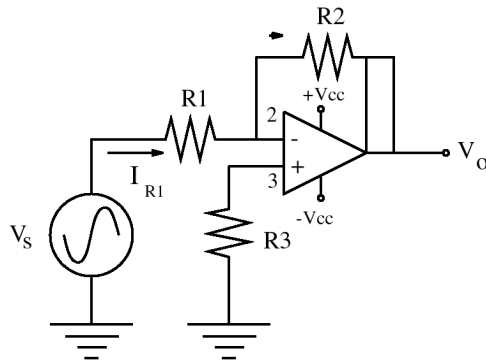
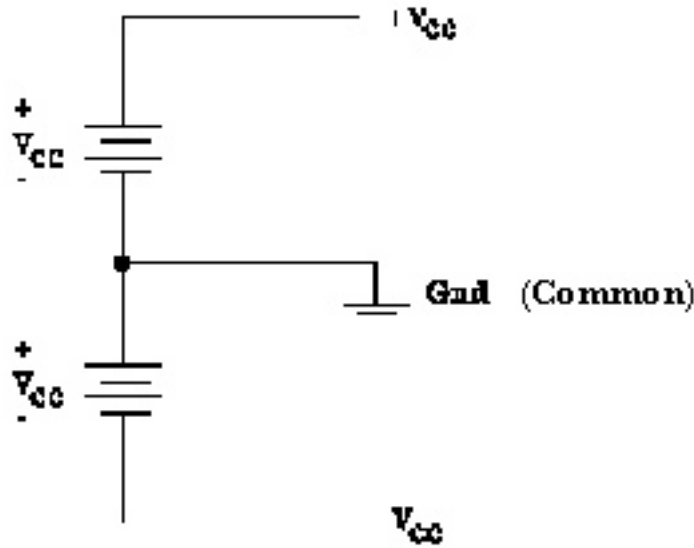

Figure 4: Inverting operational amplifier circuit
Figure 7. Power supply circuit.
Figure 4 shows an op-amp in the inverting configuration along with the power supply connections $+v_{cc}$ and $-v_{cc}$. Future circuit diagrams will show only the signal portion of the circuit with the understanding that the power supply connections are required for proper operation of the circuit. To analyze this circuit, we will use Kirchhoff's Current Law (KCL) to determine the output node voltage v_o and the circuit voltage gain given by the formula
For this experiment, you will need a power supply which can provide +10 volts, -10 volts and a **common** ground. However, the power supply at your station is equipped to provide both positive and negative 10 volts relative to earth ground. Assemble the circuit shown in Figure 7. From the standpoint of the op-amp,
- 1) Select, measure, and record the values of three resistors, $R_1 = 5k\Omega$, $R_2 = 20k\Omega$ and $R_3 = 5k\Omega$. Obtain a 747 op-amp. Assemble the circuit shown in Figure 4. Be sure to include the power connections $+v_{cc}$ and $-v_{cc}$ from the power supply circuit of Figure 7 to $+v_{cc}$ and $-v_{cc}$ of the 747 chip as shown in Figure 4. In addition, the **ground** nodes shown in Figure 4 are to be connected to the common node of Figure 7. Note that Figure 4 shows two $+v_{cc}$ connections. There are two 741 op-amps in each 747 chip. There is a separate $+v_{cc}$ for each op-amp. Connect a wire between the two $+v_{cc}$ pins. Also note that the pins labeled NC are **not connected** to anything.